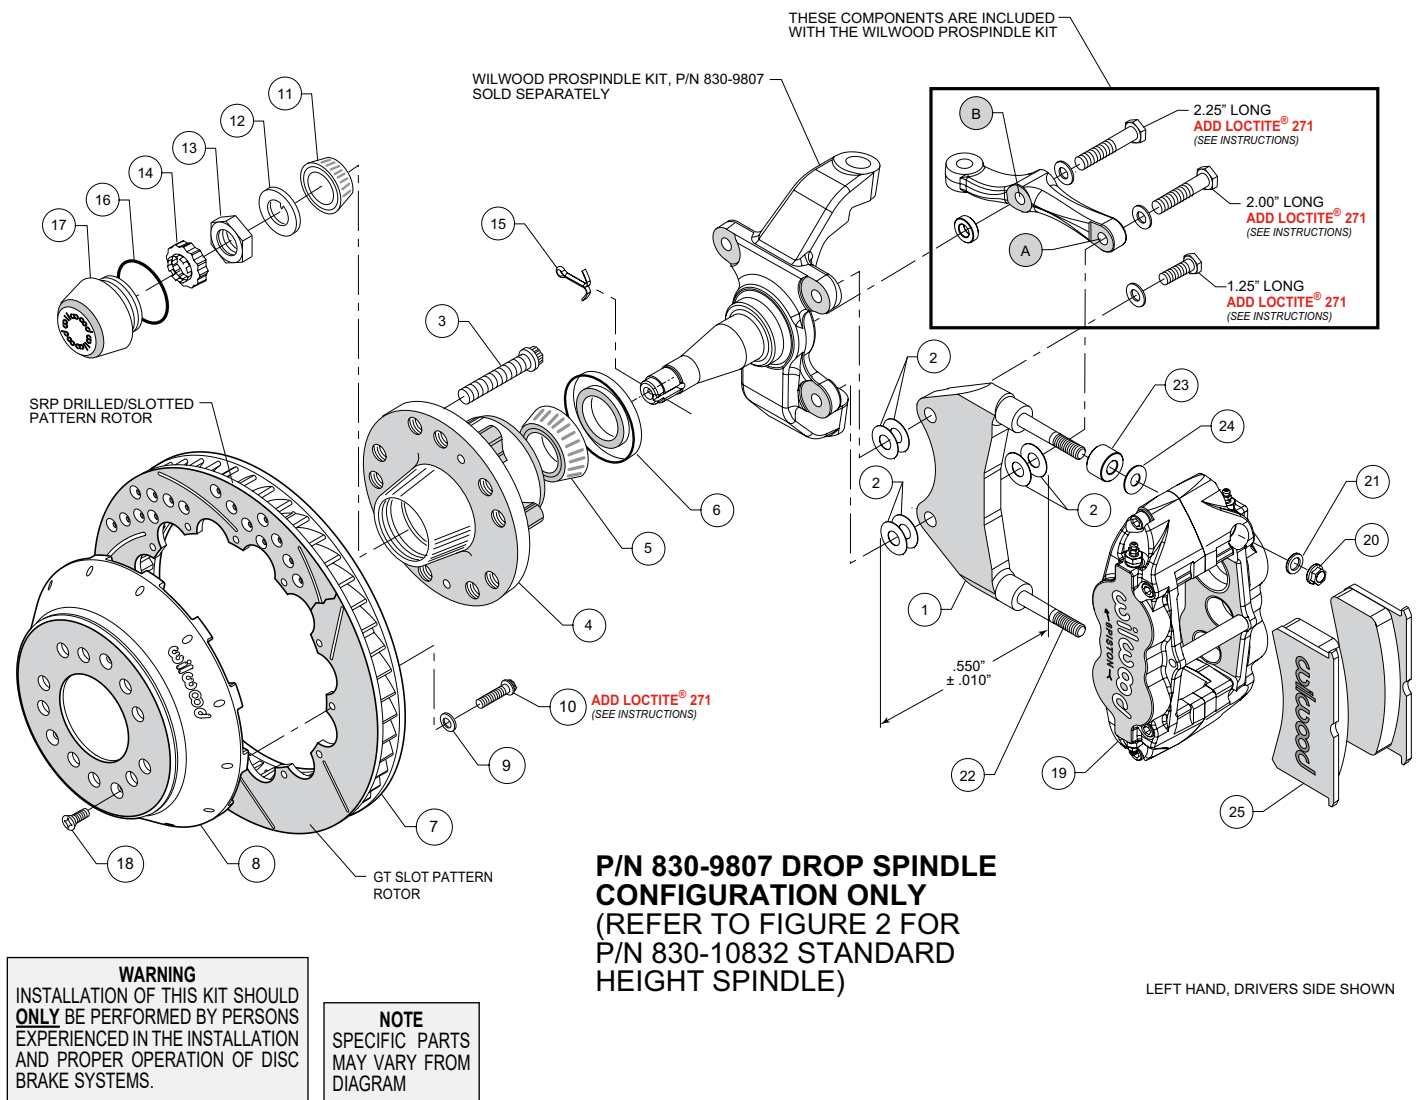
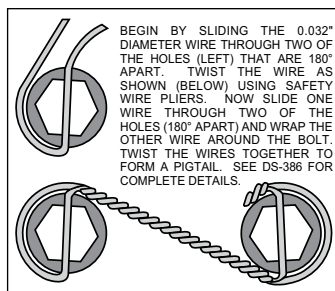

Figure 1. Installation Configuration For Drop Spindle, P/N 830-9807
Figure 4. Safety Wire Diagram
NOTE: Numbers in parenthesis refer to the parts list and Figure 1 on the preceding pages.
•**NOTE:** Each Wilwood ProSpindle kit includes bolts, washers, and a spacer to mount the steering arm and caliper bracket. The various bolts are identified by length in the following instructions and in Figures 1 and 2.
- Orient the bracket as shown in Figure 1 and Photo 1. Install at top spindle hole using 1.25" long bolt and .06" thick washer (from ProSpindle kit), and two .016" thick shims (2) between the bracket and spindle, Figure 1.
- Orient the steering arm, and identify the hole marked 'A', as shown in Figure 1. Install at bottom spindle hole using 2.00" long bolt and .06" thick washer (from ProSpindle kit), two .016" thick shims (2) between the bracket and steering arm, and another two .016" thick shims (2) between the bracket and spindle, Figure 1. The bracket is located between the steering arm and spindle. **NOTE:** The bracket and shim washers must add up to a total thickness of .550" \pm .010", Figure 1.
- Finish attaching the steering arm through the hole marked 'B', as shown in Figure 1. Install using 2.25" long bolt, .06" thick washer, and .25" thick spacer (all from ProSpindle kit), Figure 1.
- Screw dust cap (17) into hub (4). Friction created by the o-ring (16) on the dust cap keeps it from unscrewing.
- Orient the rotor (7) and the hat (8) as shown in Figures 1 or 2, and Photo 6. Attach rotor to hat using bolts (10) and washers (9). Apply red *Loctite*® 271 to the bolt threads and torque to 155 in-lb using a criss-cross pattern. For an added measure of security, the bolts may be safety wired using standard 0.032 inch diameter stainless steel safety wire as shown in Figure 4. Refer to Wilwood's data sheet DS-386 (available at www.wilwood.com/Pdf/DataSheets/ds386.pdf) for complete safety wire installation instructions.
- NOTE:** This kit contains distinct right and left hand calipers that must be mounted in a specific direction, as described below. Initially place one .035" thick shim (24), and spacer (23) on each stud (22) as shown in Figure 1 or 2, and Photo 7. Mount the caliper (19) onto the bracket (1) using lock nuts (20) and washers (21), Figure 1 or 2. Ensure that the caliper is mounted so that the largest pistons are at the rotor exit end of the caliper, in relation to the direction of rotor rotation. Temporarily tighten the lock nuts and view the rotor through the top opening of the caliper. The rotor should be centered in the caliper, Photo 8. If not, proceed as follows:
- Adjust by adding or subtracting shims (2) between the bracket and the spindle. Always use the same amount of shims on each of the two bolts between bracket and spindle.
- For the lower bracket mount bolt, if a shim was added between the bracket and spindle, then a shim must be removed between the steering arm and bracket, such that the total thickness of bracket and shims remain equal to $.550 \pm .010$ ", Figure 1.